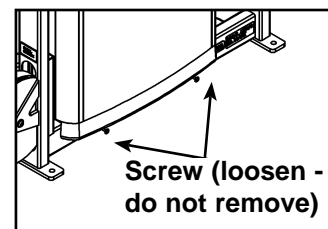

Figure 6
- F. Loosen bottom two screws shown in Figure 6.